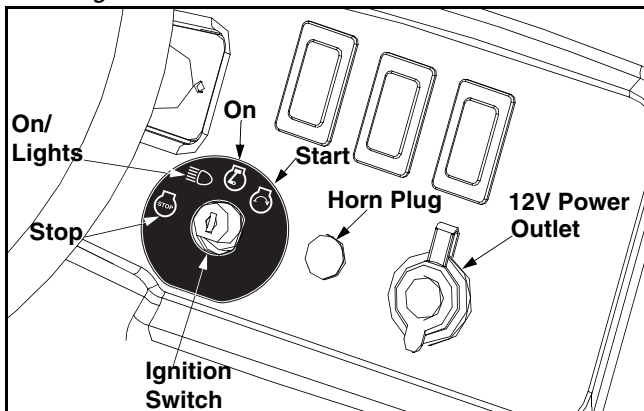

Figure 4
The ignition switch is located on the right side of the dash panel. To start the engine, insert the key into the ignition switch and turn clockwise to the **START** position. Release the key into the **ON** position once engine has fired. See Figure 4.
The horn switch is located on the right side of the dash panel. Push button to activate horn. See Figure 4.
The 12V power outlet is located on the right side of the dash panel. It is used for the convenience of plugging in accessories that require a power source with a maximum load of 5 amps at 12 volts. See Figure 4.
- Turn the key one notch counterclockwise into the On/Lights position of the ignition switch. Refer to Figure 4.
- Turn the key either into the On position (to leave the engine running) or the Stop position (to shut the engine off). Refer to Figure 4.